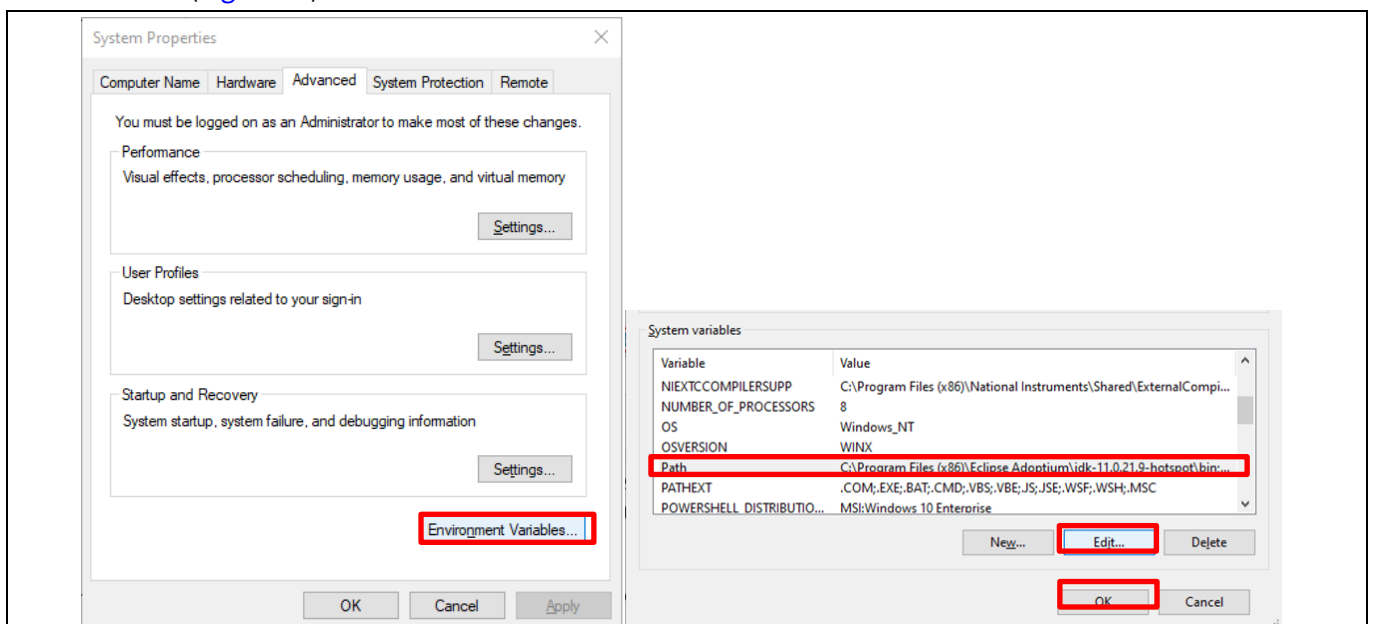

Figure 27 Adding environment variable
6. In the Advanced tab of system properties, select **Environment Variables** and then under system variables, select Path (Figure 27)